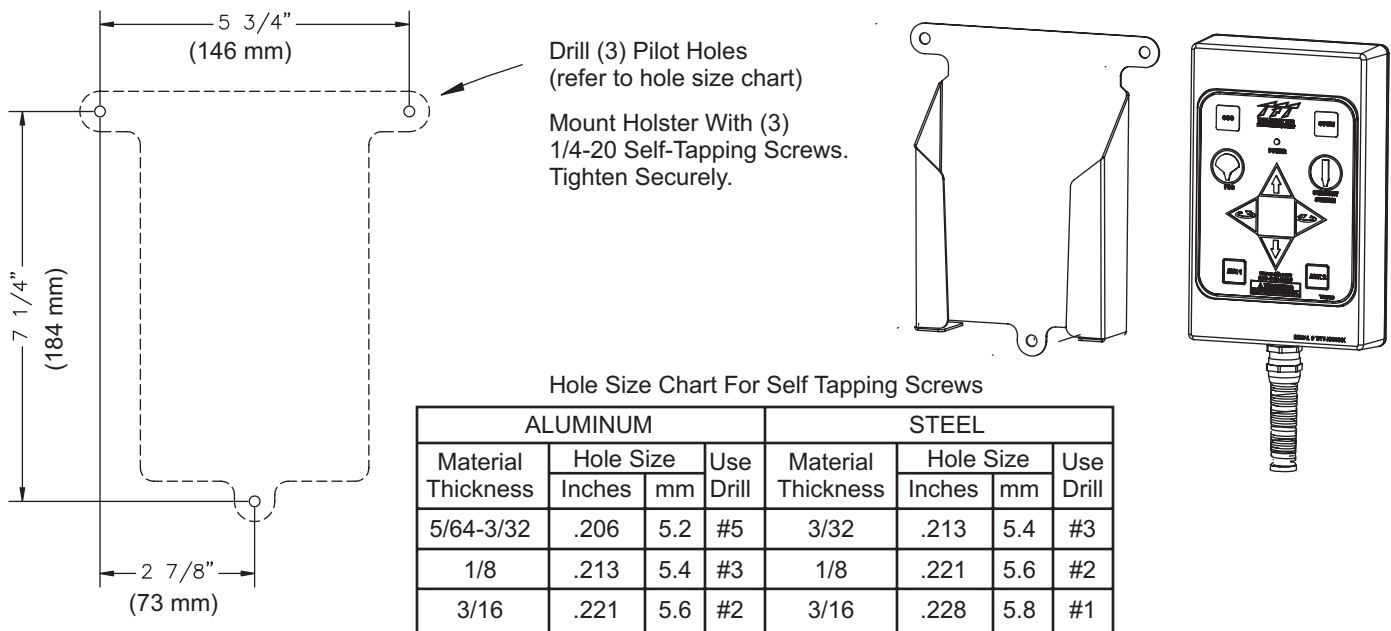

Fig 5.3.1 Tether Operator Station Holster Hole Dimensions
The holster is supplied with (3) 1/4-20 stainless steel self-tapping screws. Make sure the material beneath the bracket is substantial and thick enough to hold self-tapping screws. Make sure the area on the back side of the mounting surface is clear of obstructions. We recommend a minimum thickness of 3/32" (.093" - 2.4 mm) in aluminum and 5/64 (.078"-2mm) in steel. See the chart in Figure 5.3.1 to determine the correct pilot hole size.
Select proper location for mounting holster, preferably inside a storage compartment. Panel space required will be 6.5" x 8.0" (165 x 203mm). Refer to Figure 5.3.1 for hole dimensions. Holster can be used as template.